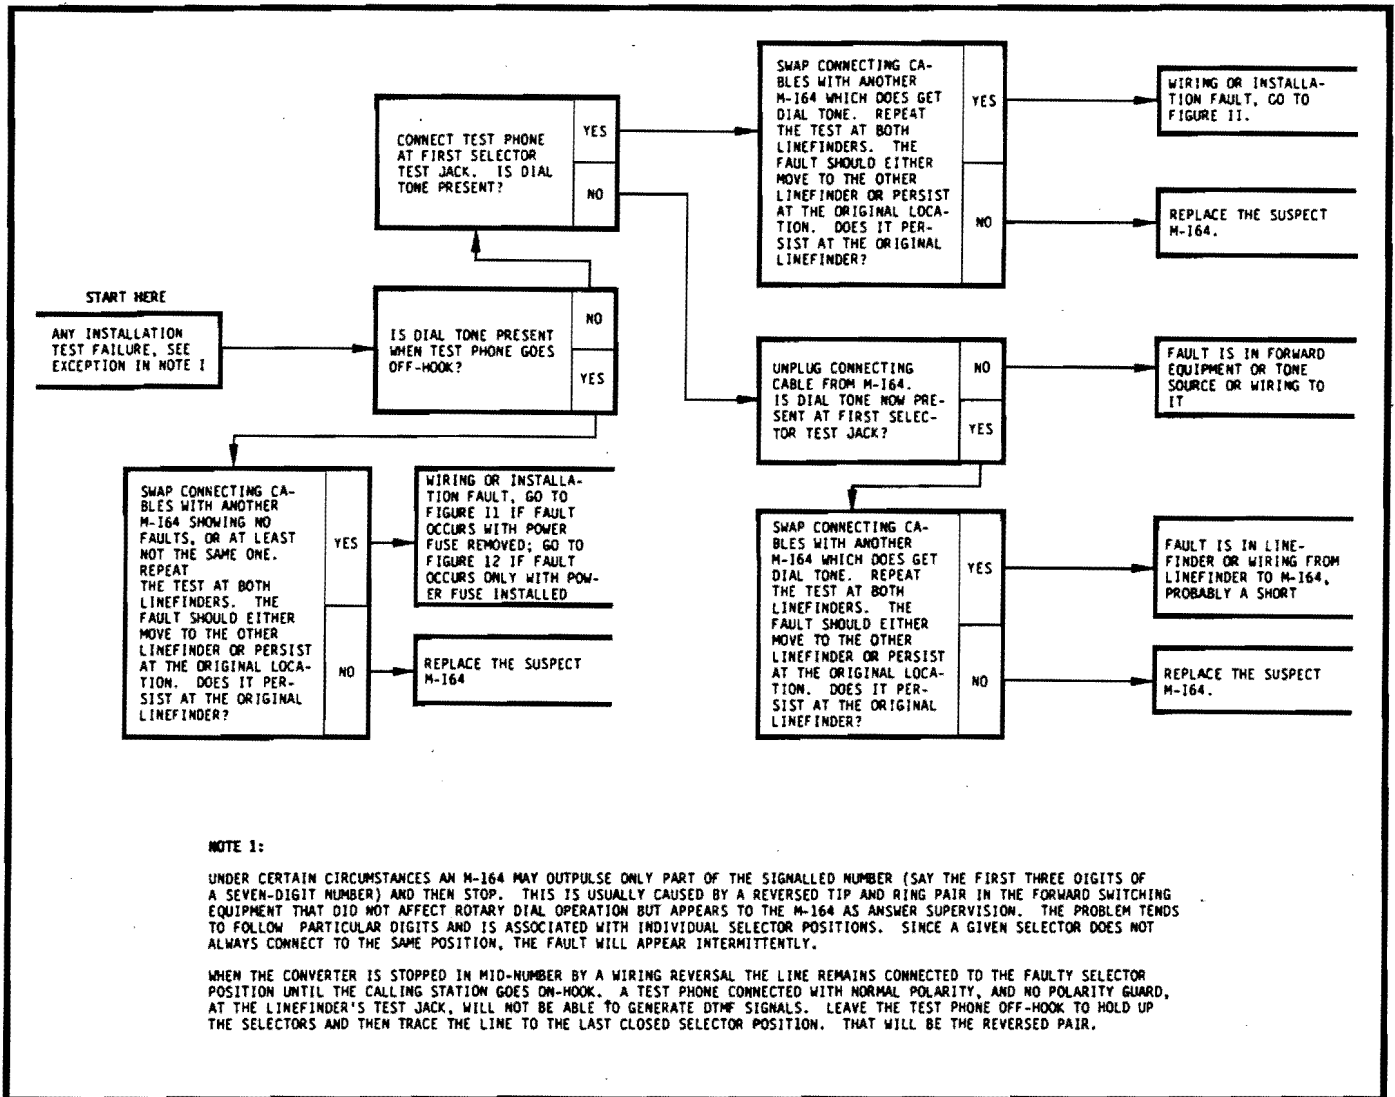

Figure 10 Fault Isolation for In-Service Units
- Figure 10, for an in-service unit.